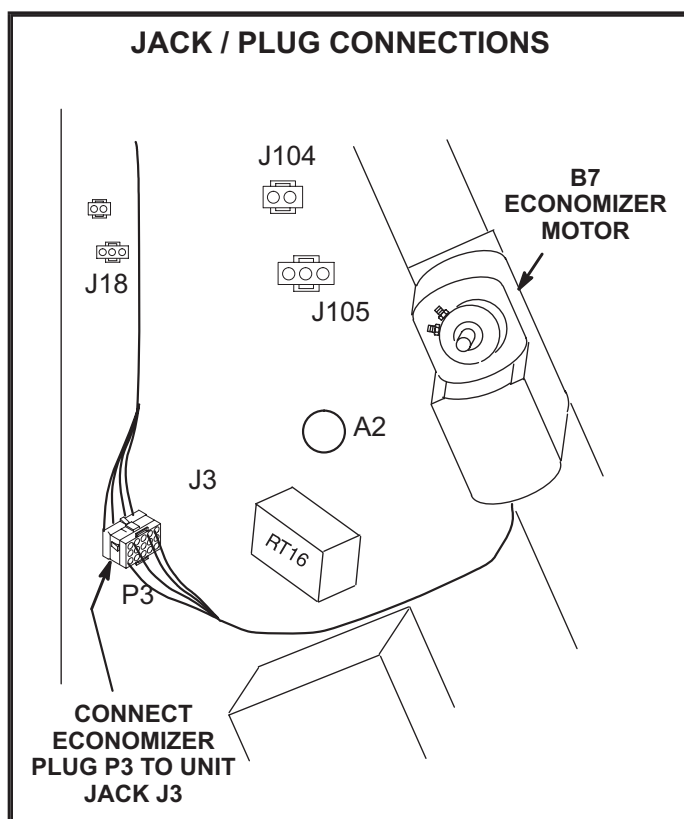

FIGURE 2
- 3 - Disconnect economizer plug P3 from unit jack J3. See FIGURE 2.
- 7 - Connect economizer plug P3 to unit jack J3 as shown in FIGURE 2.